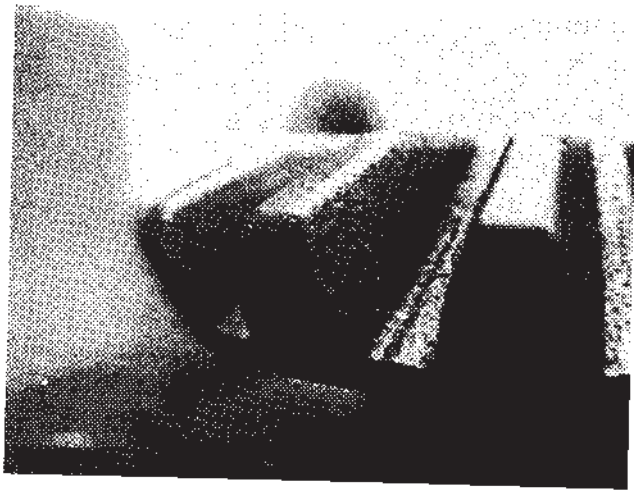

Figure 4
a) **New side gear (Figure 4).** Note that the surface has a slight roughness that remains after the forging operation.